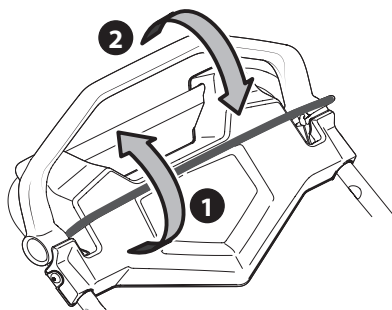

Figure 31
1. Once the engine is running and while continuing to hold the blade and drive controls together, push the drive control forward to propel mower. The farther the control is pushed forward, the faster the mower will propel (Figure 31).